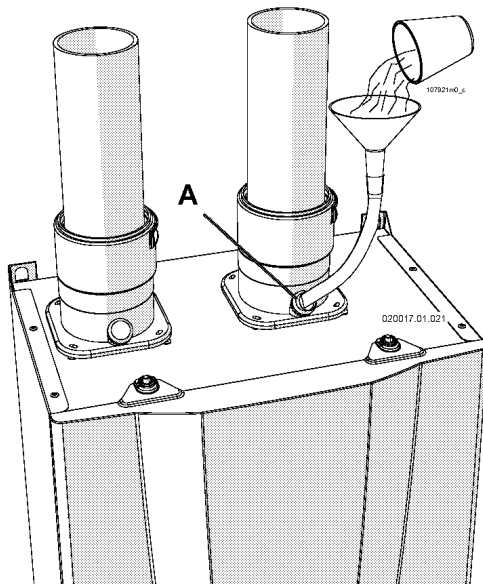

Figure 14-11 Fill the condensate trap
1. Remove the cap "A" as per Figure 14-11;
2. connect a rubber pipe to a funnel and insert the rubber pipe into the opening for the combustion analysis probe of Figure 14-11;
4. close the combustion analysis probe with the cap "A" of Figure 14-11.
WARNING!!! Once the cap "A" of Figure 14-11 is right in place, with the boiler at high fire, check that it is absent from leakage and is mechanically fixed. Improper cap fixing can result in excessive levels of carbon monoxide which can result in severe personal injury or death!